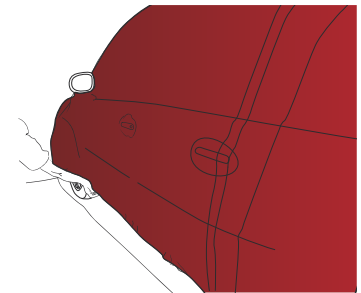

Figure 21
- › Tension the film over the door handles and, using a squeegee, apply the film all around the door handles. Once the door handles are done, tension the film down up to the bottom of the vehicle body. (FIG. 21)